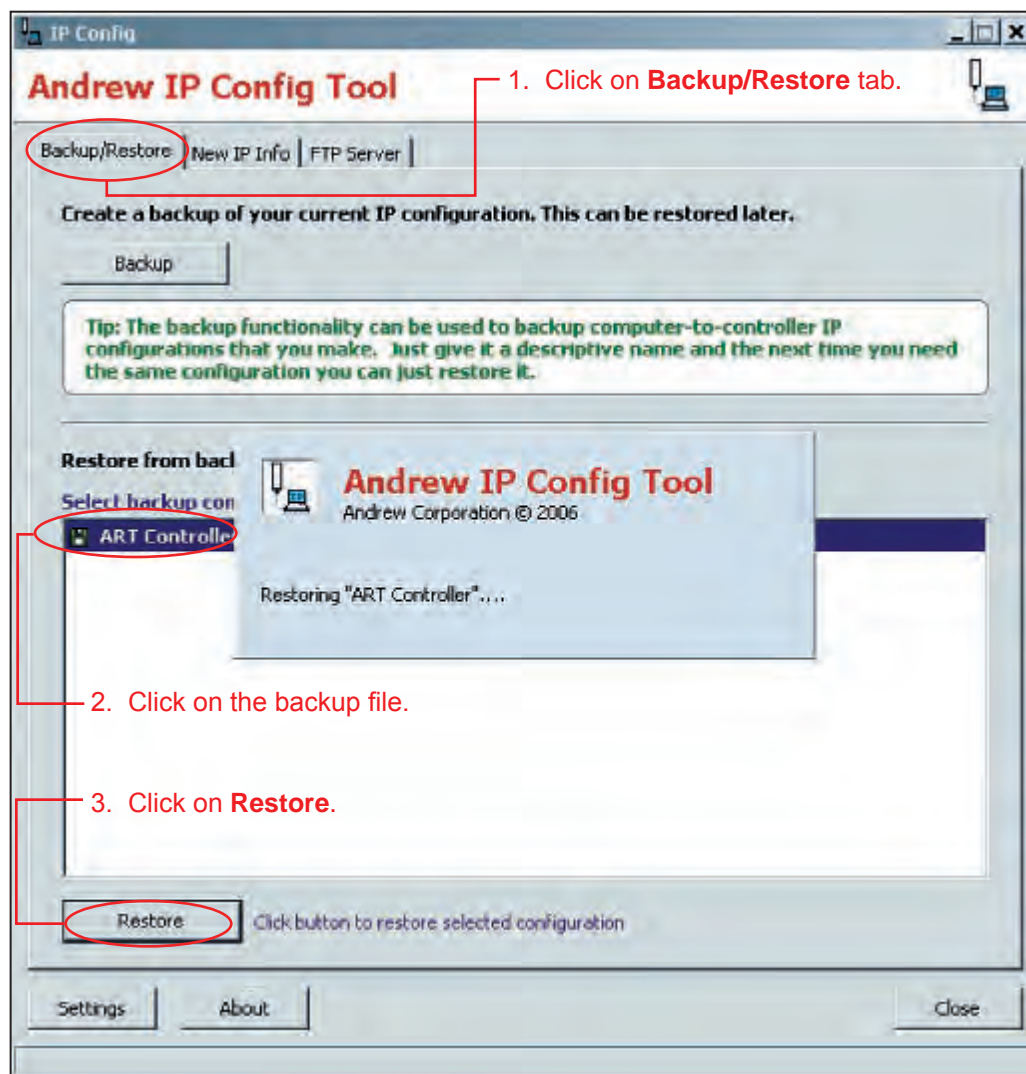

Figure 9-2. Restoring Backup IP Configuration File To Regain Access To Controller.
4. Click on the **Backup/Restore** tab (Figure 9-2).
5. Click on the backup IP configuration file that was set up for access to the controller (Figure 9-2). See Section 3.5 for creating a backup IP configuration file.
6. Click on **Restore** (Figure 9-2).